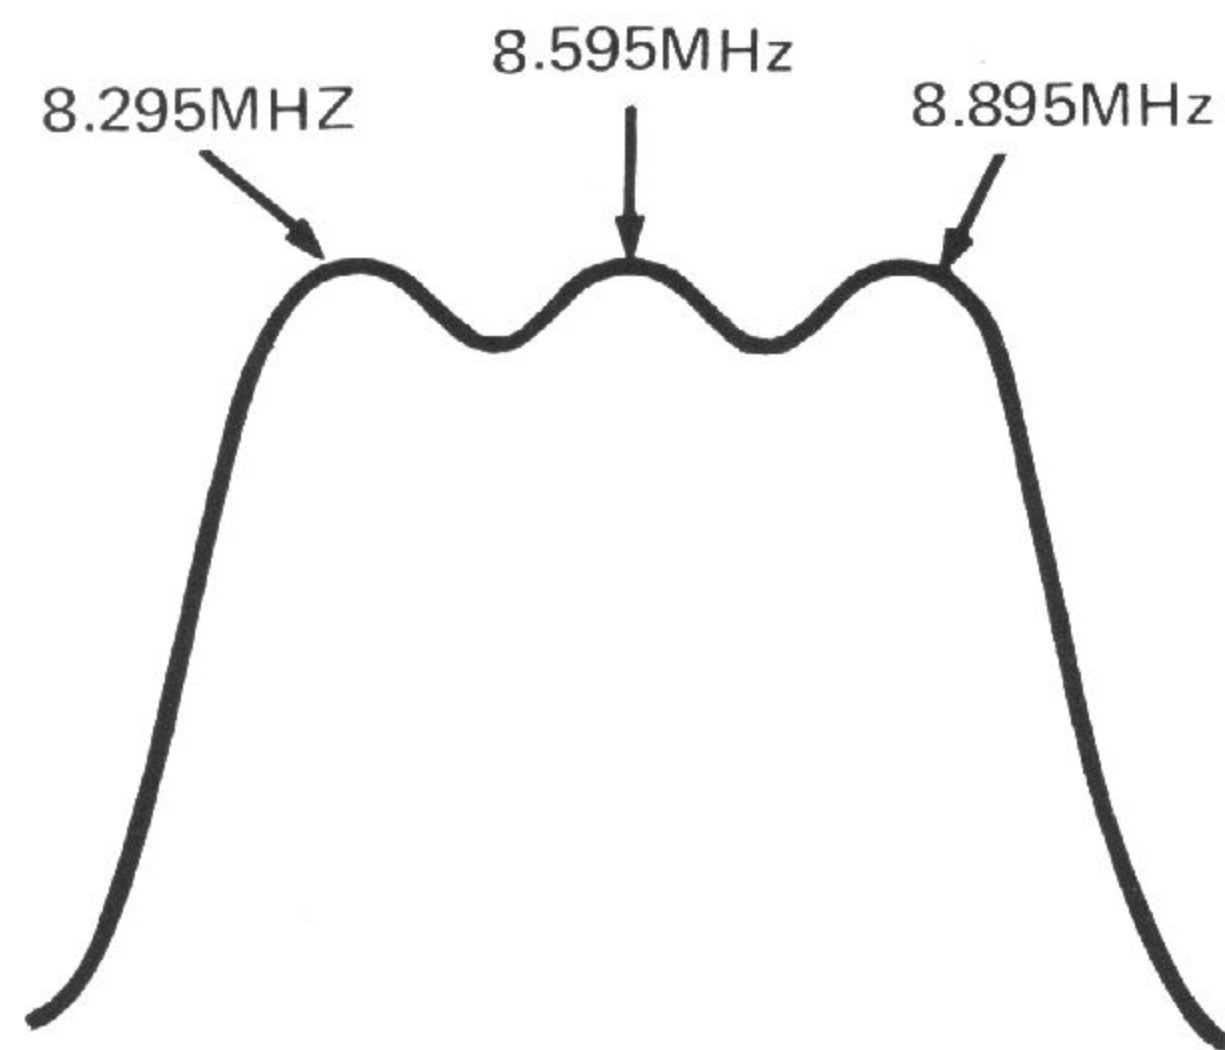

Fig. 3
- Display the waveform (shown in Fig. 3) on the oscilloscope by adjusting T1, T2 and T3 on IF unit.